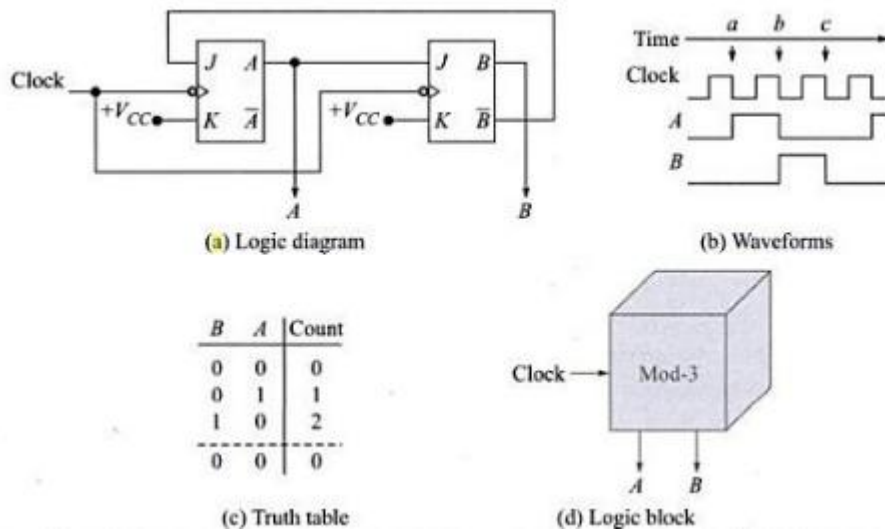

Figure 10.16: a)logic diagram b)waveforms c)truth table d)logic block
- skips one state(i.e. 11) {Figure10.16}.